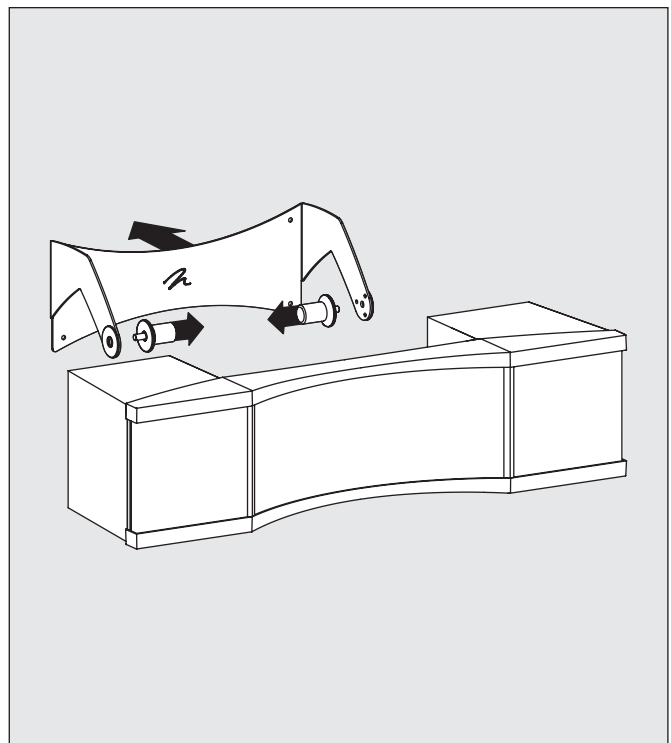

Figure 3. Remove the stand from the speaker.
For optimum performance the Stage X must be tilted on its stand towards the main listening position and directed towards the audience's ears (see figure 3). After you have placed your Stage X in its final location, loosen the 2 knobs located on the stand arm, pivot the Stage X towards the main listening position, and then re-tighten the knobs.
Placing the Stage X on the floor might position it too low to blend with the front speakers. (see figure 3). If placing the Stage X on the floor is the best placement for your system, the adjustable mount (stand) will allow you to tilt the Stage X towards the listening position. For this option we recommend installation of the rubber bumper feet.
If your television provides a wide, level and stable platform, the shielded Stage X can be placed directly on top of the television (see figure 3). For this option we recommend installation of the rubber bumper feet.
- 3 Remove the stand/wall-bracket by completely unscrewing the two large knobs (figure 3).